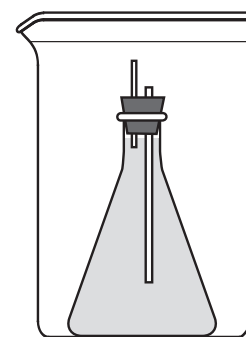

Figure 3.
- Fill the tall-form beaker with cold tap water or ice water by carefully pouring the water down the inside wall of the beaker, not over the flask. Fill the beaker with enough cold water to cover the higher glass tube by about 1/2 centimeter. See Figure 3. Start the timer or note the time.